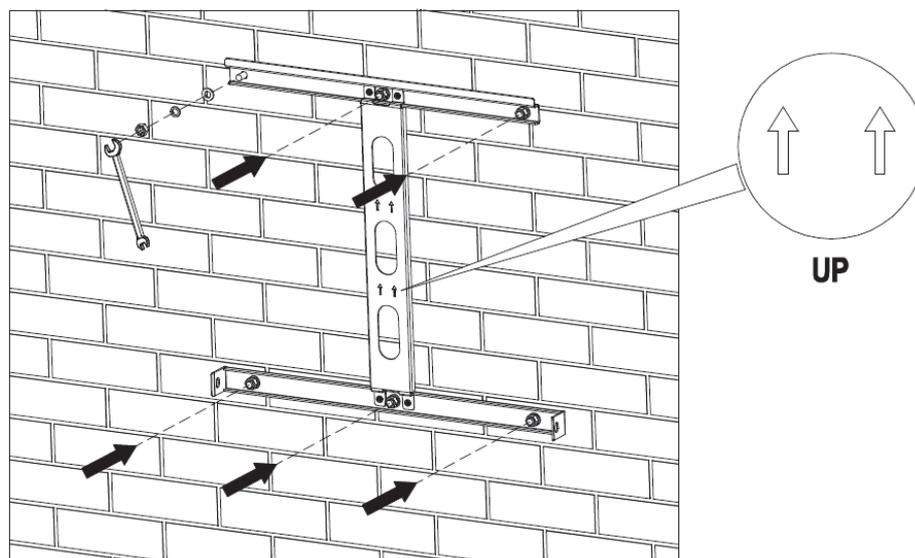

Figure 4.11 Fix the installation bracket
- (4) Fix the installation bracket onto the expansion bolts and ensure the installation is firm enough (tightening torque is  $13\text{N}\cdot\text{m}$ ). As shown in Figure 4.11.